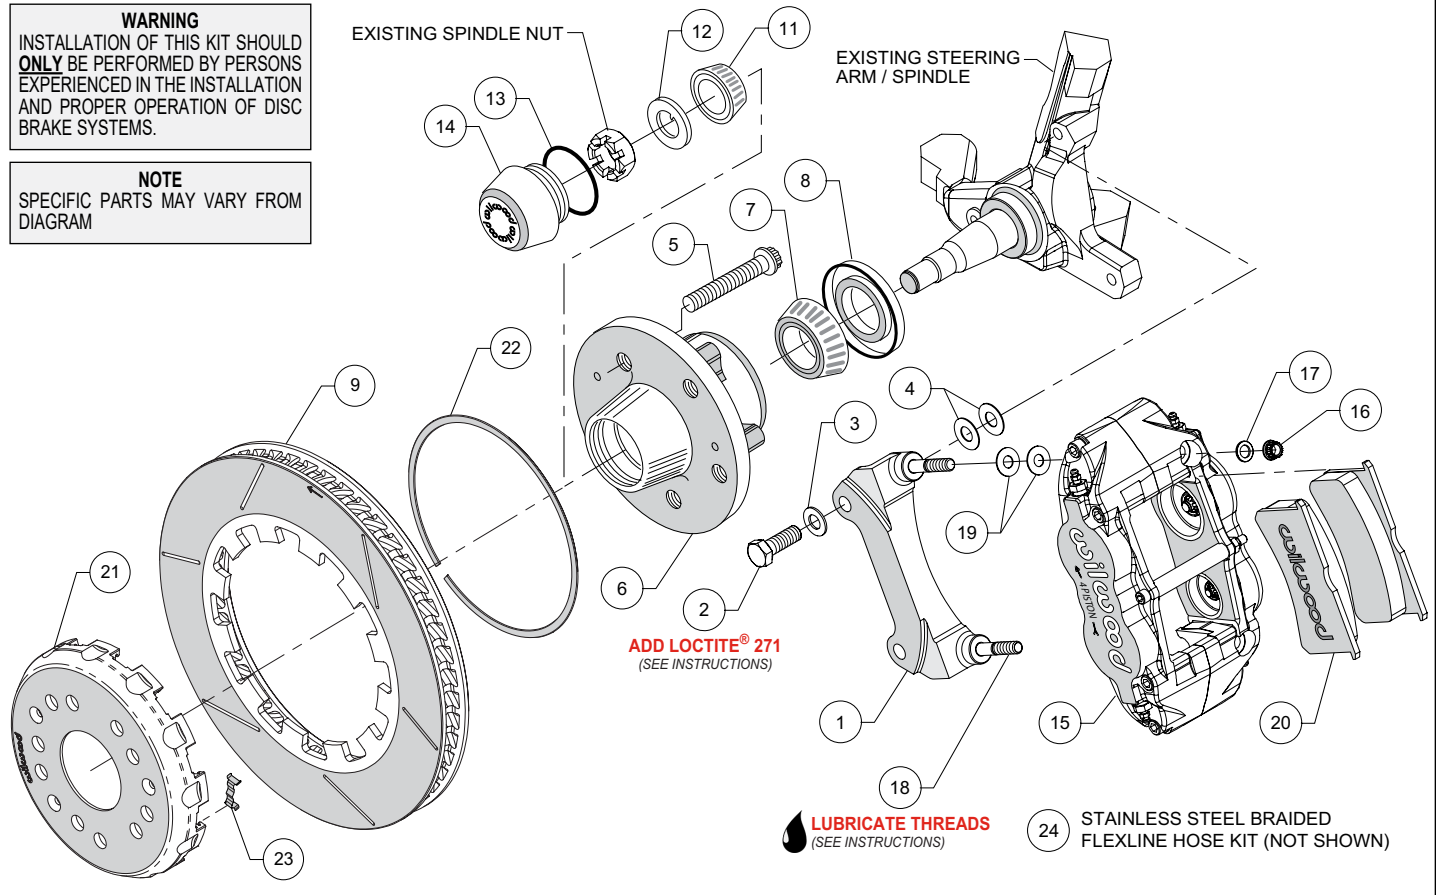

Figure 2. Typical Installation Configuration
- The caliper mount bracket (1) should initially be installed with clean, dry threads on the mounting bolts. Orient the bracket as shown in Figure 2 and Photo 1, and install using bolts (2) and washers (3). Initially place two .033" thick shims (4) on each bolt between the bracket and upright, Figure 2. Temporarily tighten the mounting bolts.
- Install wheel studs (5) into the hub (6), Photo 2. Torque to 77 ft-lb.
- Pack the large inner bearing cone (7) with high temperature disc brake bearing grease (available from your local auto parts store) and install into the backside of the hub (6), Photo 3.
- NOTE:** *This kit contains distinct right and left hand calipers that must be mounted in a specific direction, as described below.* Lubricate the caliper mounting studs (18) with lightweight oil. Initially place two .035" thick shims (19) on each stud between the caliper and the bracket, as shown in Figure 2 and Photo 10. Mount the caliper (15) onto the bracket (1) using lock nuts (16) and washers (17), Figure 2. Ensure that the caliper is mounted so the largest pistons are at the rotor exit end of the caliper, in relation to the direction of rotor rotation. Temporarily tighten the lock nuts and view the rotor through the top opening of the caliper. The rotor should be centered in the caliper, Photo 11. If not, adjust by adding or subtracting shims (4) between the bracket and the spindle. Always use the same amount of shims on each of the two mounting bolts. Once the caliper alignment is correct, remove the bracket mounting bolts (2) one at a time, apply red *Loctite*® 271 to the threads, and torque to 60 ft-lb.